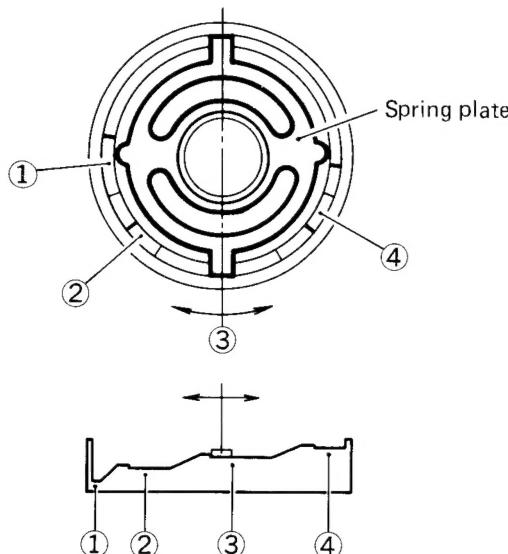

Fig. 19
2) When the playback torque is not in this range, check whether or not rubber and/or rotary members have dirt and/or oil on them. After that, if the torque is still low, lift up the spring plate shown in Fig. 19 to move it to position ③, while if the torque is high, move it to position ① in the same manner.